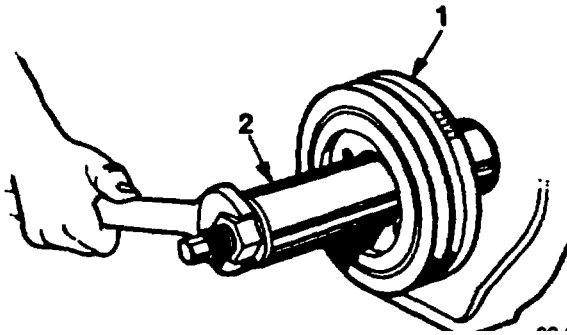

Figure 170. Installing Crankshaft Pulley
4. Position pulley key in keyway of crankshaft. Lubricate inside diameter of crankshaft pulley with press-fit lubricant. Install crankshaft pulley using installer tool SE-1900 (Figure 170). Install crankshaft pulley nut and flat washer. Tighten pulley nut to specified torque. (See TORQUE CHART).